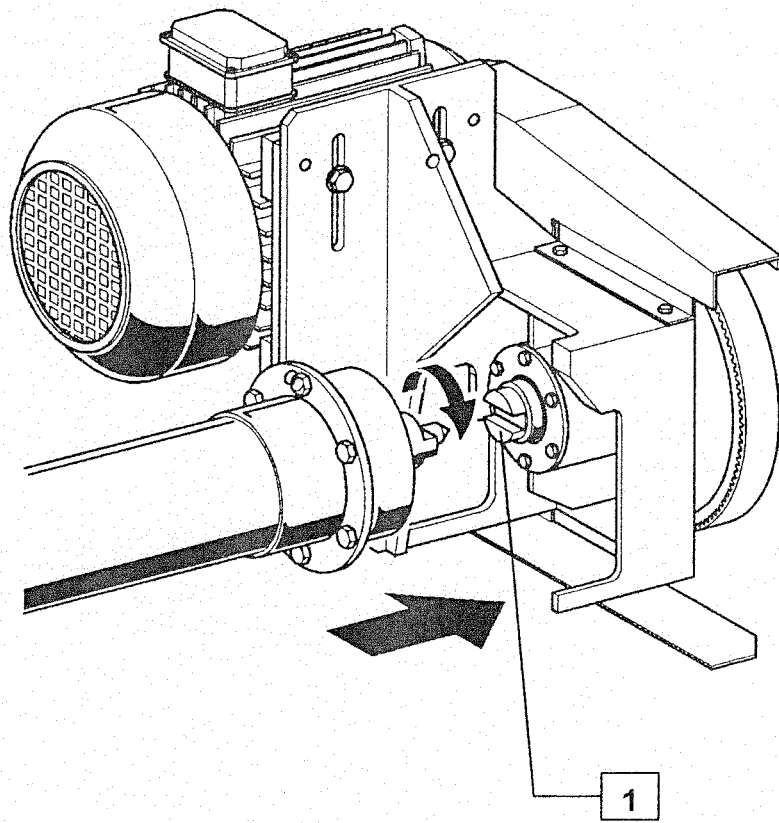

Fig. 7-16 – Dasher assembly
2) After having inserted the dasher, rotate it up to perfect coupling with the rear motor drive (Fig. 7-16 pos. 1).